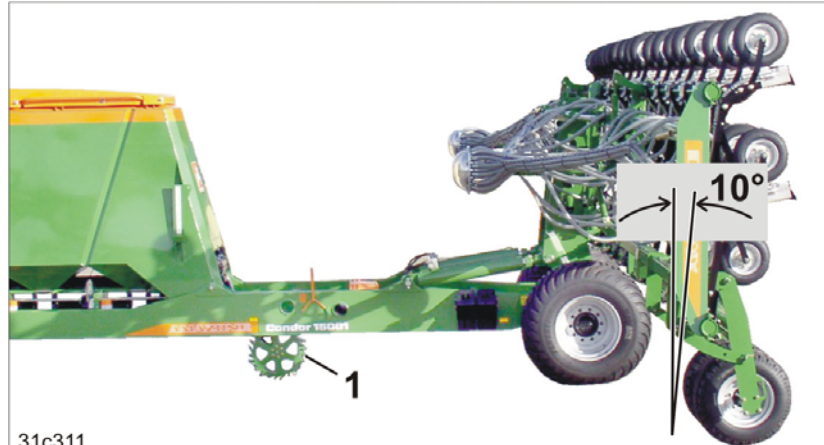

Fig. 205 31c311
4. Raise the rear frame up to approx. 10° before it reaches the vertical position (see Fig. 205).
- Actuation of the *yellow* control unit cause the star wheel to be lifted (Fig. 205/1).
Correct the tilt of the rear frame (see Fig. 205) if necessary.